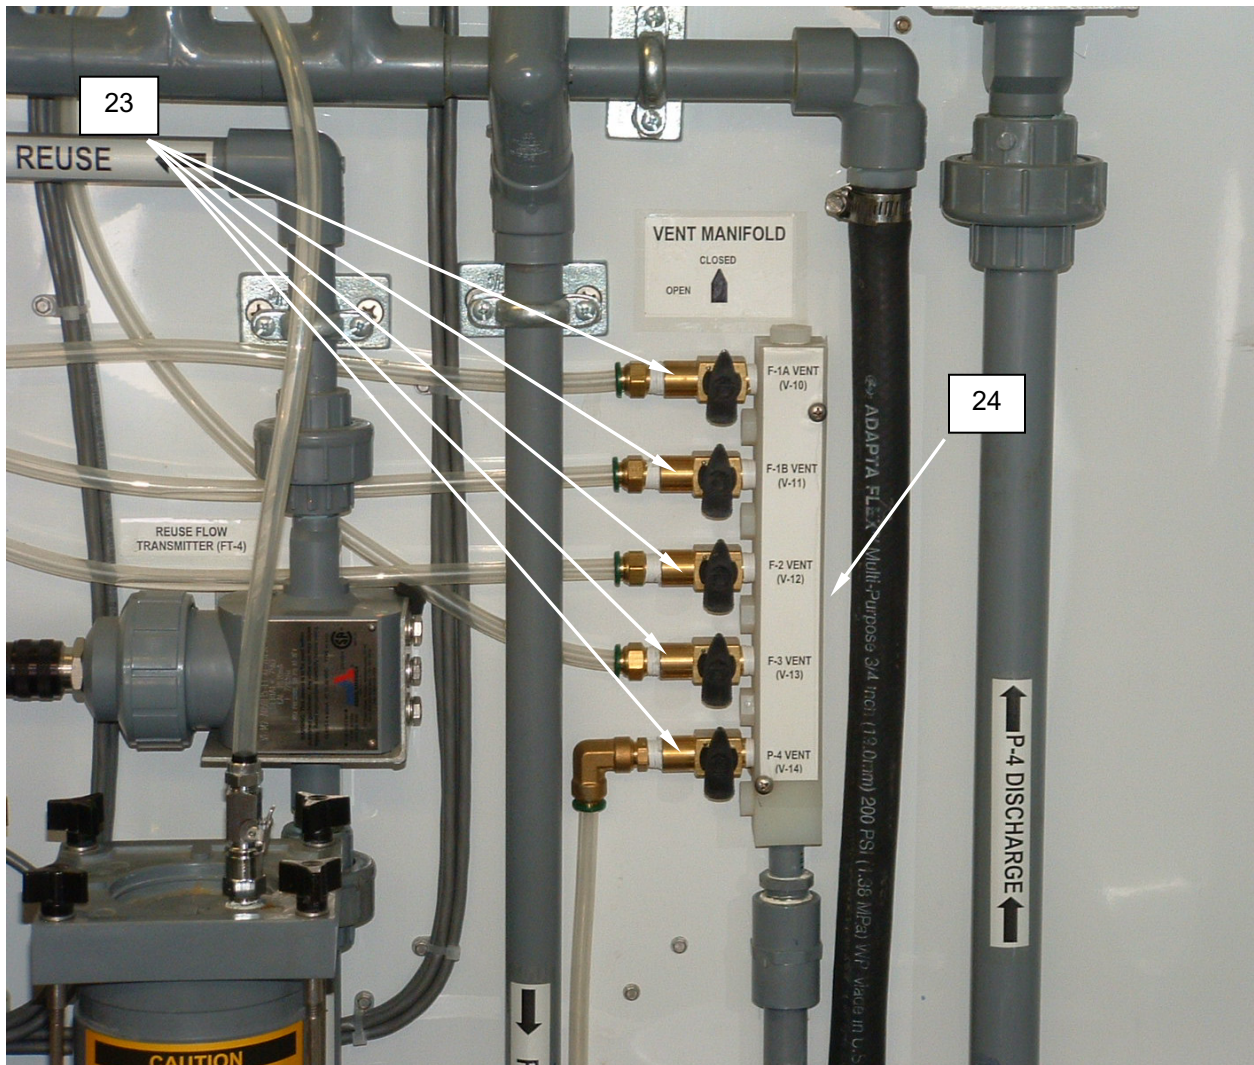

Figure 14. Vent Valve Manifold.
11. Ensure the vent valves (V-10 through V-14) (**Figure 14, Item 23**) on the vent valve manifold (**Figure 14, Item 24**) are closed.